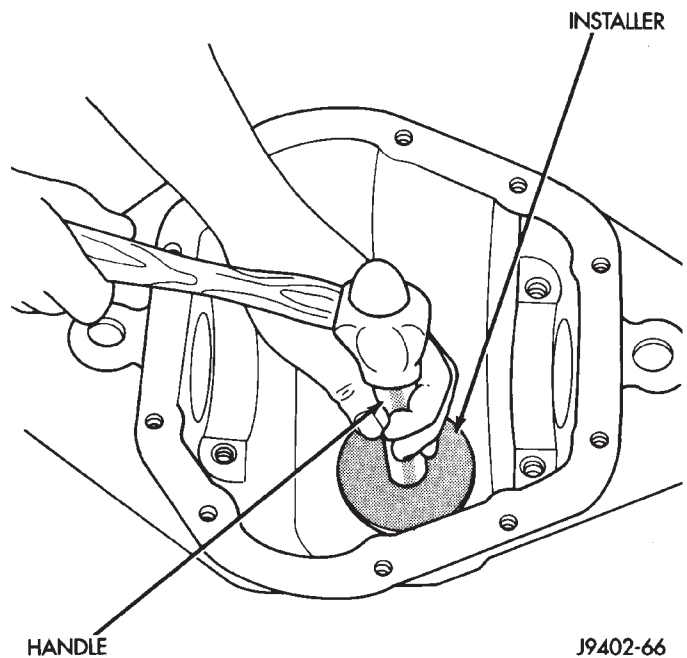

Fig. 27 Pinion Rear Bearing Cup Installation
(1) Place pinion depth shims in axle housing rear bearing bore.
(2) Install the pinion rear bearing cup with Installer C-4204 (Fig. 27). Ensure cup is correctly seated.